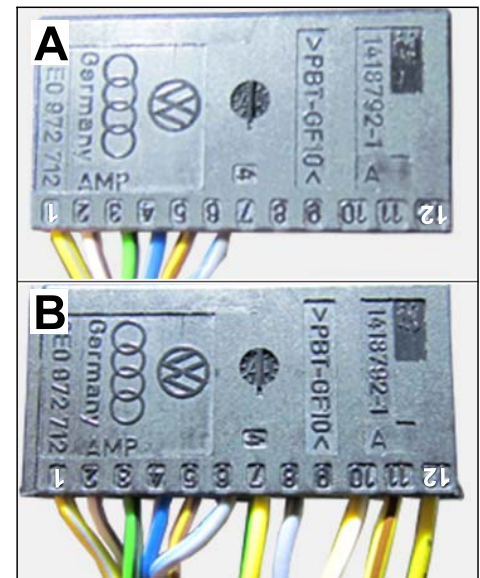

Figure 23
3.5.3 Unpin lines on the connector (12-pin) on vehicle side from chambers 1–6 and pin them at the same position in the new connector (12-pin) (⇒ *Figure 23 -B-*).